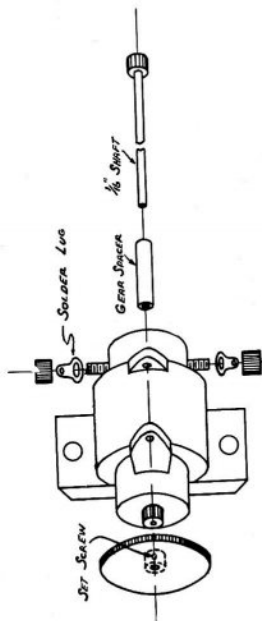

Fig. 7—Assembly Illustration
contacts should strike the printed disc in a line which will bisect the disc, but this adjustment is very broad. See Adjustments for further adjusting notes on models HRH and 1R3H. Follow assembly illustrations closely. **Refer to Figures 7, 8, 9, 10.**
2. Place $1/2$ " long Gear Spacer on new $1/16$ " Shaft and insert shaft through motor bearings from the rear of motor. Slip large gear on protruding shaft and tighten set screw leaving just a touch of end play. Remove motor brush nuts and lock on solder lugs turning the long portion with small hole up. See Figures 7 and 8.